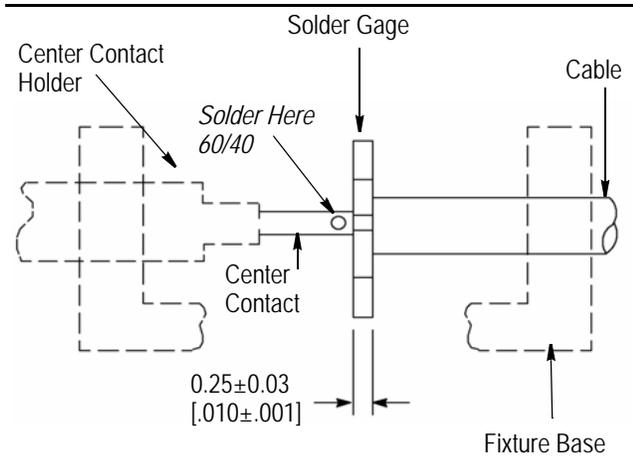

Figure 3
3.2. Soldering of Center Contact to Cable Inner Conductor (Figure 3)